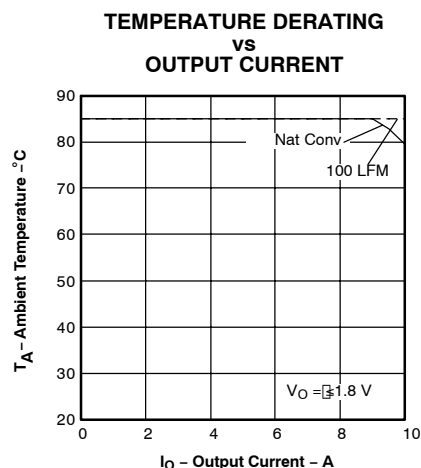

Figure 8.
- (2) SOA graphs represent the conditions at which internal components are at or below the manufacturer's maximum operating temperatures. Derating limits apply to modules soldered directly to a 4 in × 4 in, double-sided PCB with 1 oz copper. For surface mount products (AS and AZ suffix), multiple vias (plated through holes) are required to add thermal paths around the power pins. Please refer to the mechanical specification for more information. Applies to Figure 8.